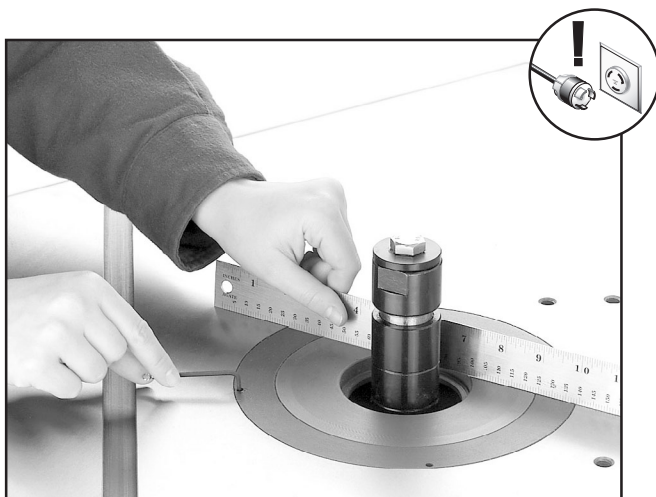

Figure 51. Adjusting the table insert.
4. Replace the inserts into the table, then place the straightedge across the table and the inserts, as shown in **Figure 51**.